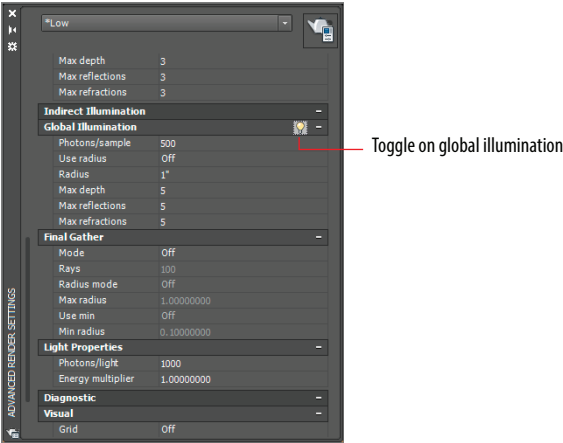

FIGURE 18.16 Toggling on global illumination (Windows only)
4. If you're a Windows user, click the small icon at the right edge of the Render panel (or type **RPREF** and press Enter) to open the Advanced Render Settings palette. Scroll down in the palette, and toggle on Global Illumination by clicking the lightbulb icon shown in Figure 18.16. Mac users cannot adjust any advanced render settings.